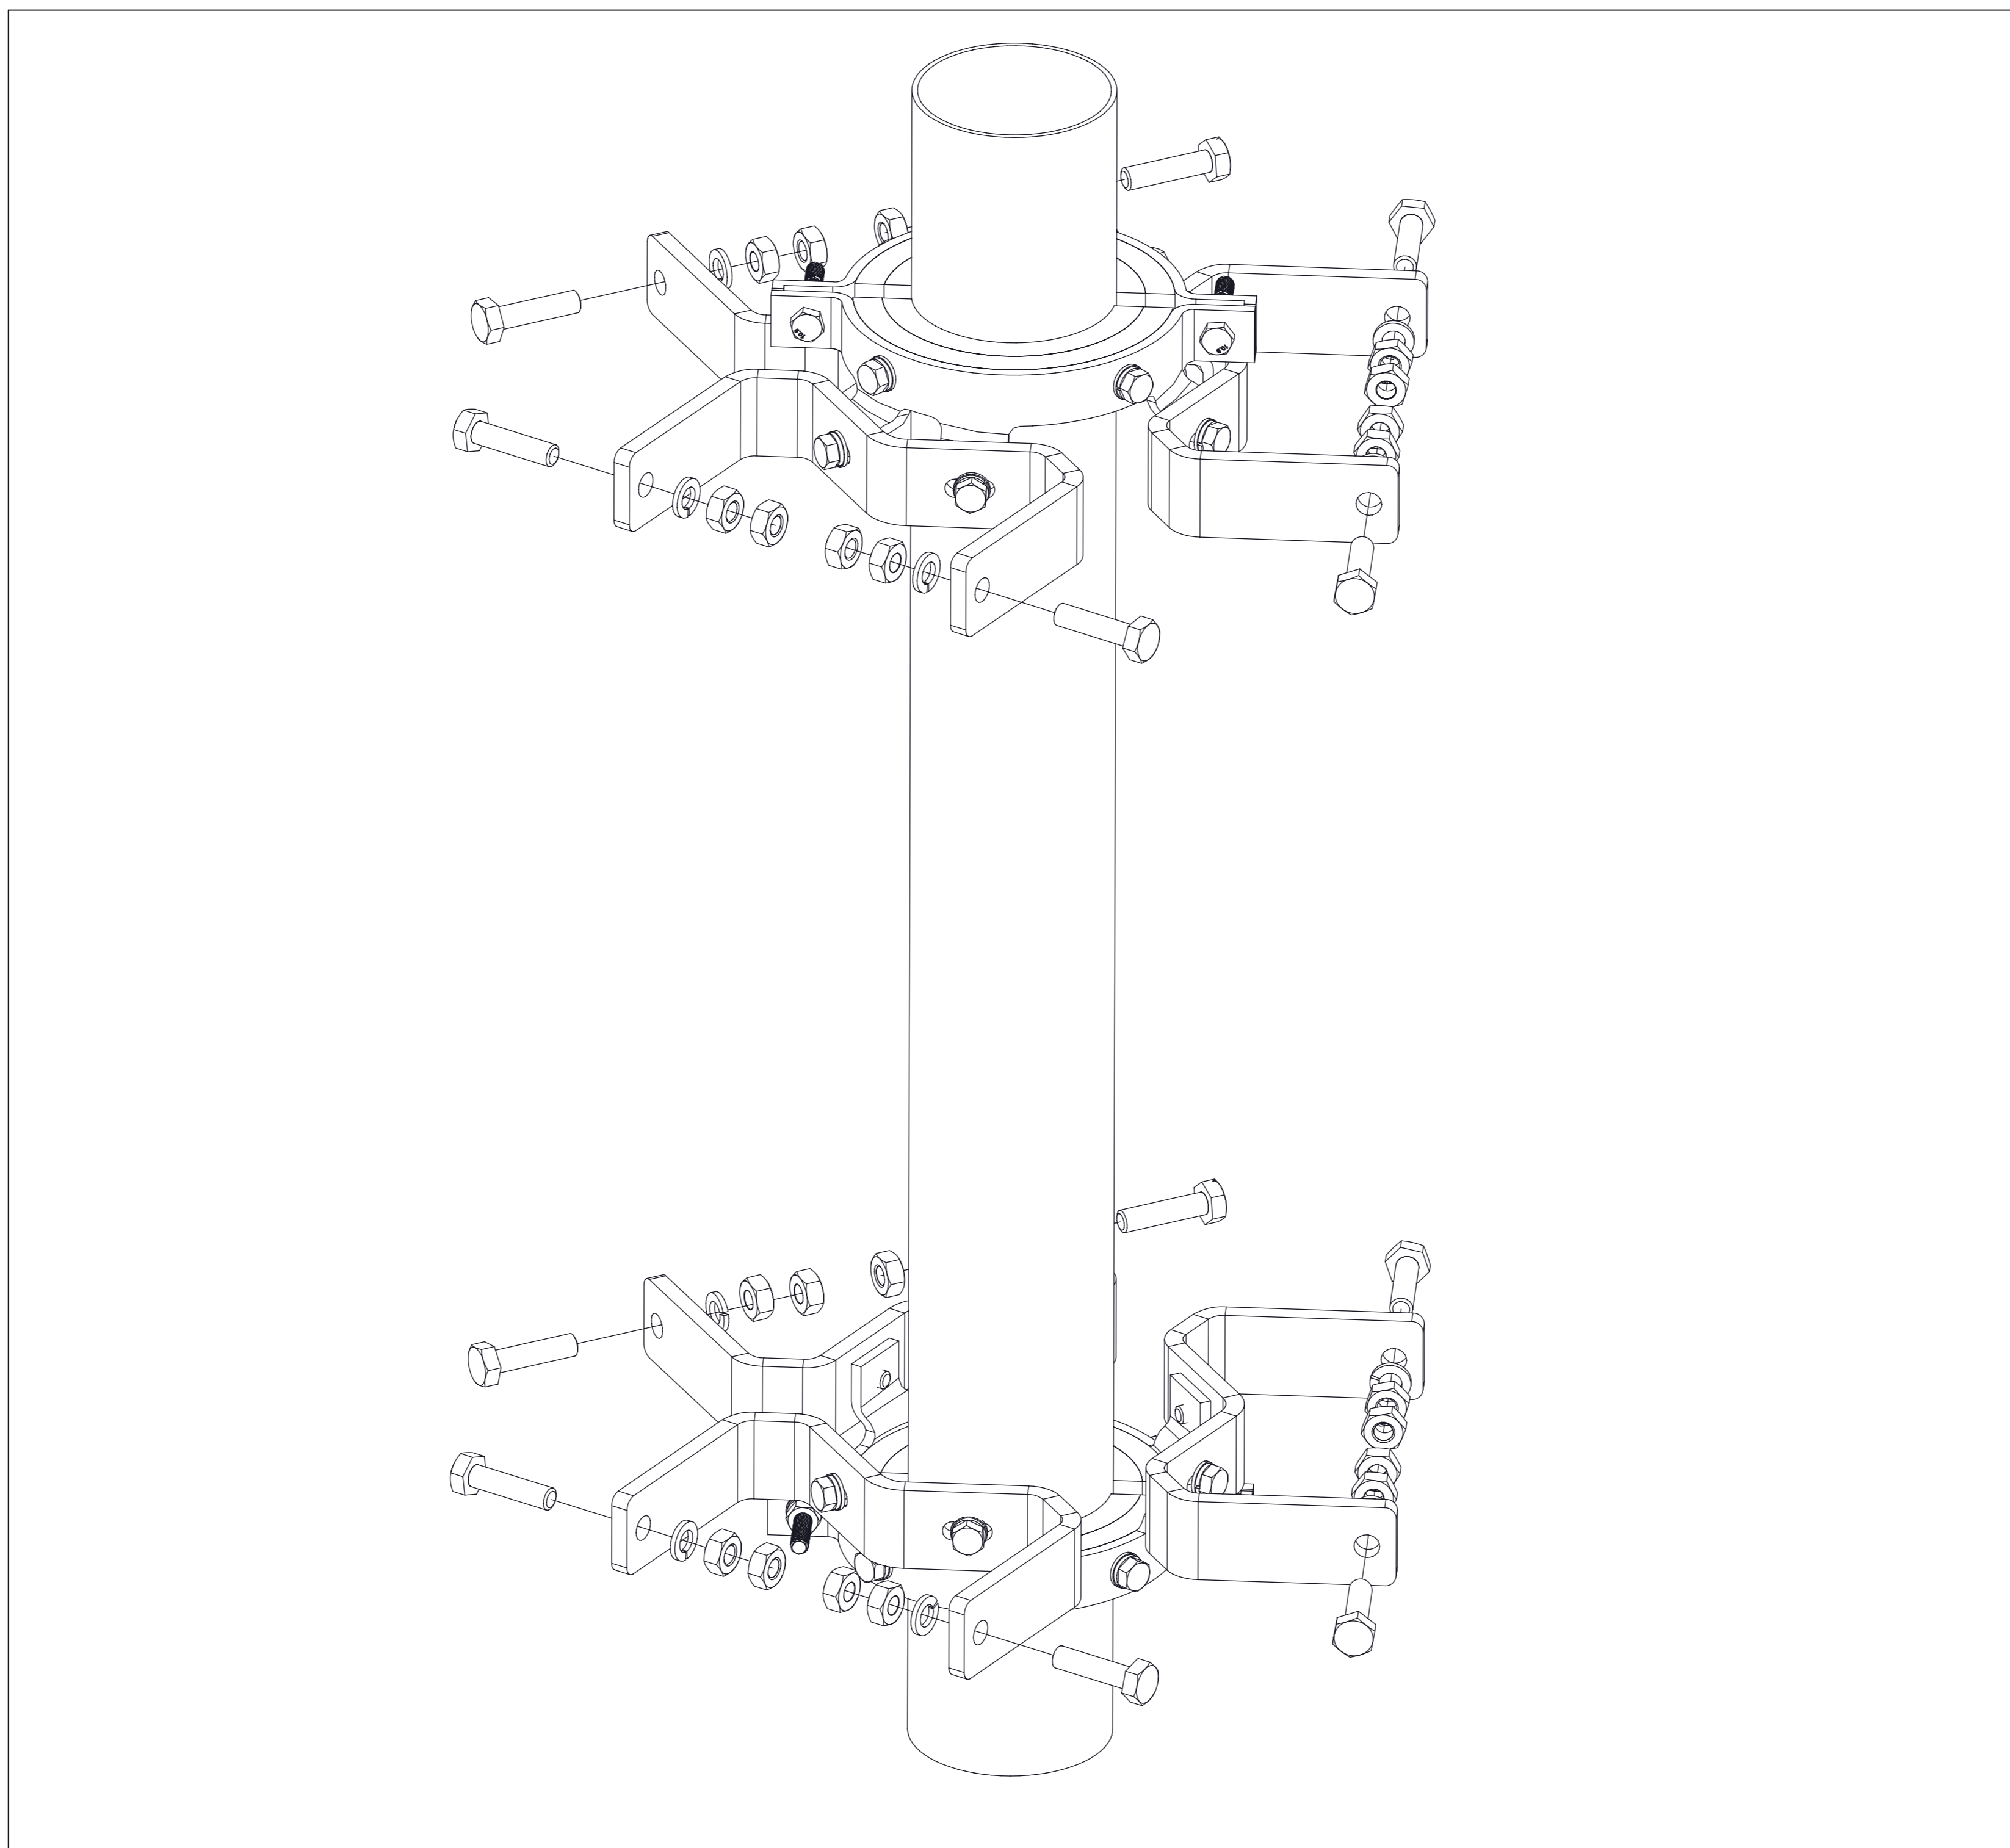

**Figure 1. Top 800PIPEKIT-XL Assembly.**
2. Separate the mounting rings (Items 1 and 2, Figure 1) to prepare for attaching the assembly to the pole. Note that in order to separate the mounting rings, the bracket noted in Figure 1 will temporarily need to be removed from one of the mounting rings.
4. If the 800PIPEKIT-XL assembly will be mounted to a 114.3mm(4.5") pole, remove the 88.9mm(3.5") pipe adapter (Item 11, Figure 1) and proceed to step 6.
5. If the 800PIPEKIT-XL assembly will be mounted to a 139.7mm(5.5") pole, remove both pipe adapters (Items 10 and 11, Figure 1) and proceed to step 6.